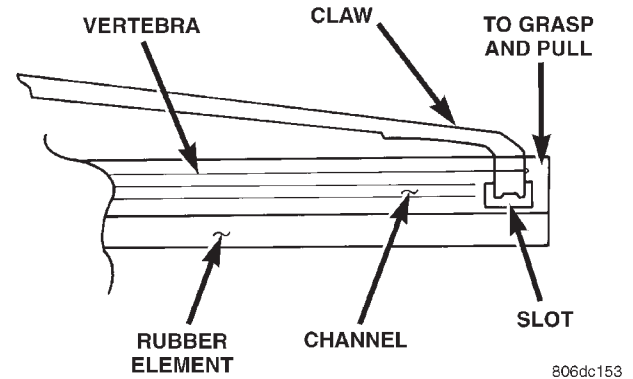

Fig. 16 Wiper Blade and Element
(3) Remove wiping rubber element by pulling stopper of the rubber element, out of the claws of blade assemble (Fig. 16). The wiper rubber element and two vertebra will be removed.
(1) Slide the rubber element into the blade assembly through the claws.
(2) Slide the metal vertebra into the top element slot, with the vertebra curved to match the windshield
(3) Ensure that the final blade claw is locked into the slot at the end of the rubber element (Fig. 16).